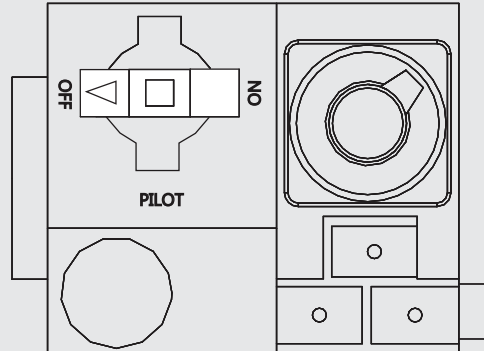

Figure 9
2. Place the gas control knob in the "OFF" position. **(Figure 9)**